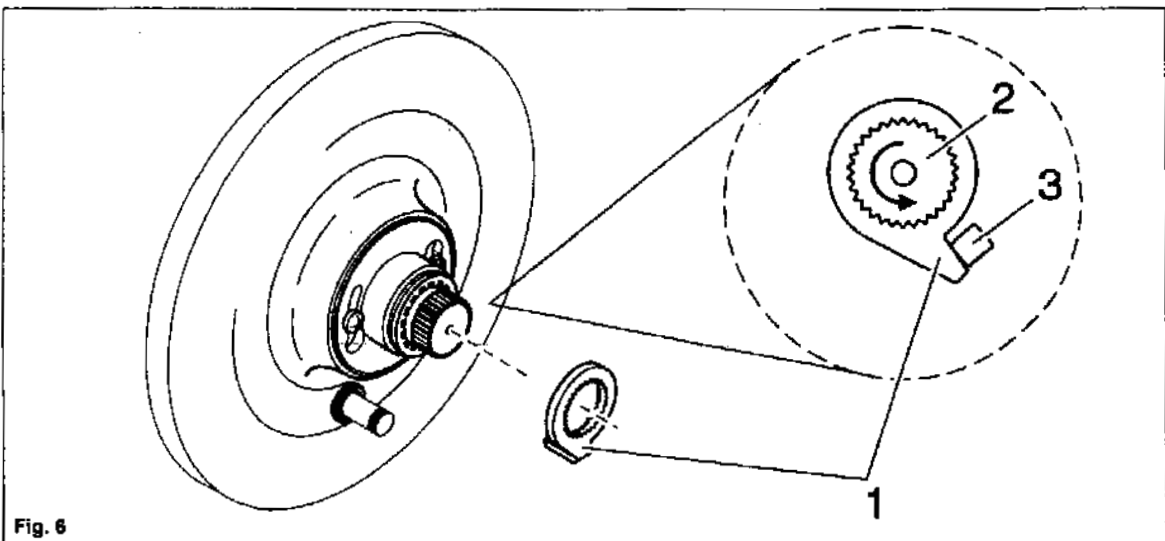

Fig. 6
- Place the handle position stop (1) over the splines on the intermediate handle (2) with the stop ring resting against the escutcheon stop post (3). (See fig. 6)